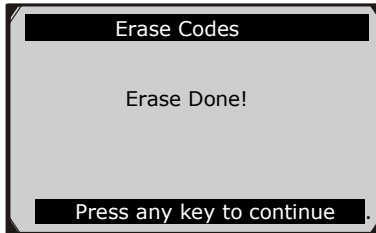

Figure 5.7
- If the codes are cleared successfully, an “Erase Done!” confirmation message shows on the display.(Figure 5.7)